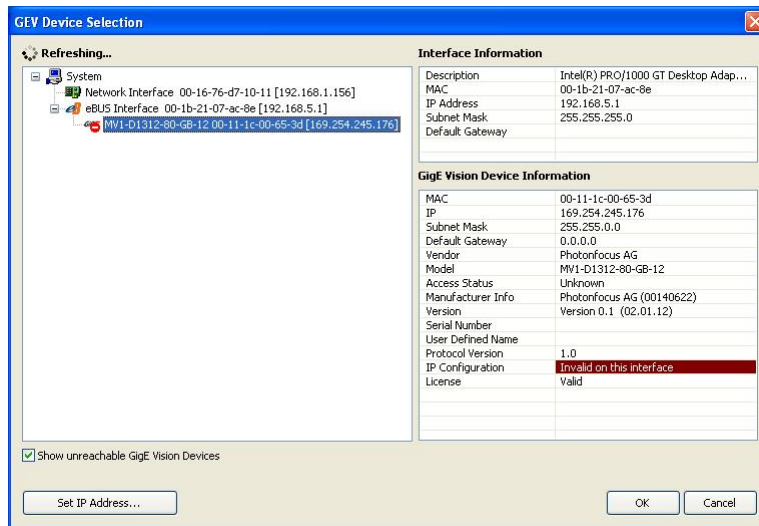

Figure 2.5: GEV Device Selection Procedure displaying GigE Vision Device Information
- Select camera model to configure and click on Set IP Address... (see Fig. 2.5).